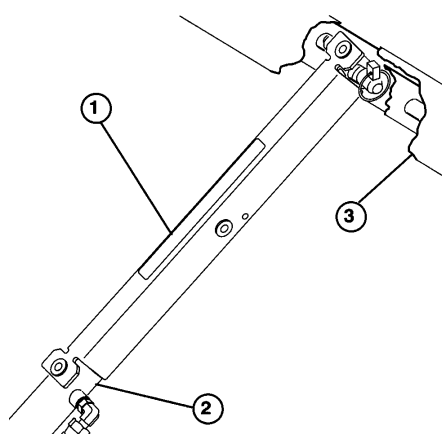

Figure 17
3. Push the bed support onto the cylinder rod, making sure support end tabs rest on the end of the cylinder barrel and on cylinder rod end (Fig. 17).